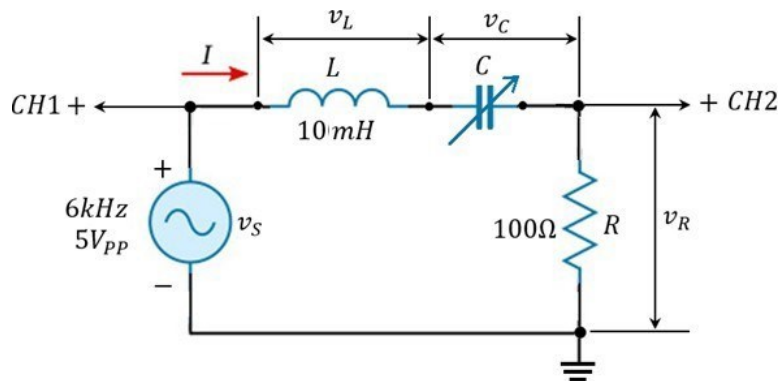

Figure 1
1. Complete the RLC circuit by setting 100Ω resistance, 10mH inductance, and 30nF capacitance, as shown in Figure 1.